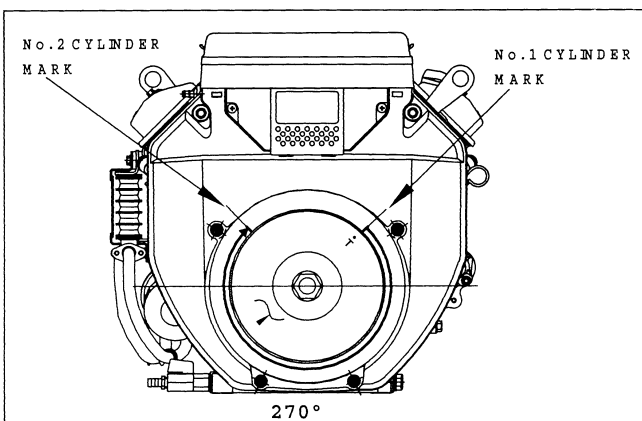

FIGURE 6-1
2. Rotate the flywheel until the "T" mark on the cooling fan aligns with the "T" mark on the right side of the fan cover. (This alignment point is Top Dead Center of No. 1 cylinder, See Figure 6-1.)